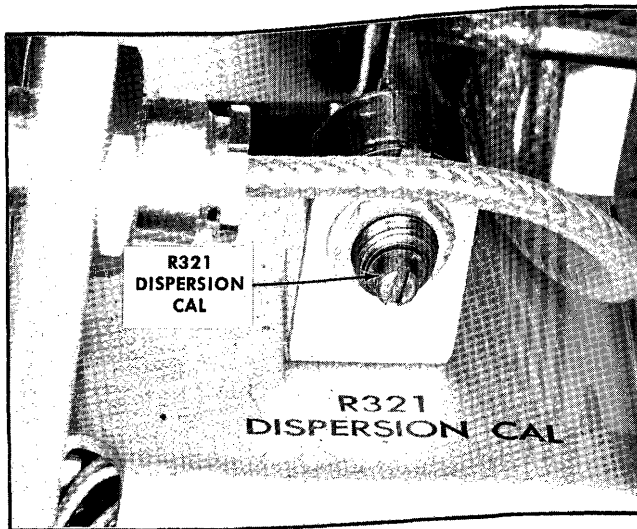

Fig. 4-18. DISPERSION CAL (R321) adjustment.
g. Set the DISPERSION CAL R321, (Fig. 4-18) adjustment for exactly four graticule divisions between the center-frequency marker and the sideband marker on the right-hand side of the graticule.